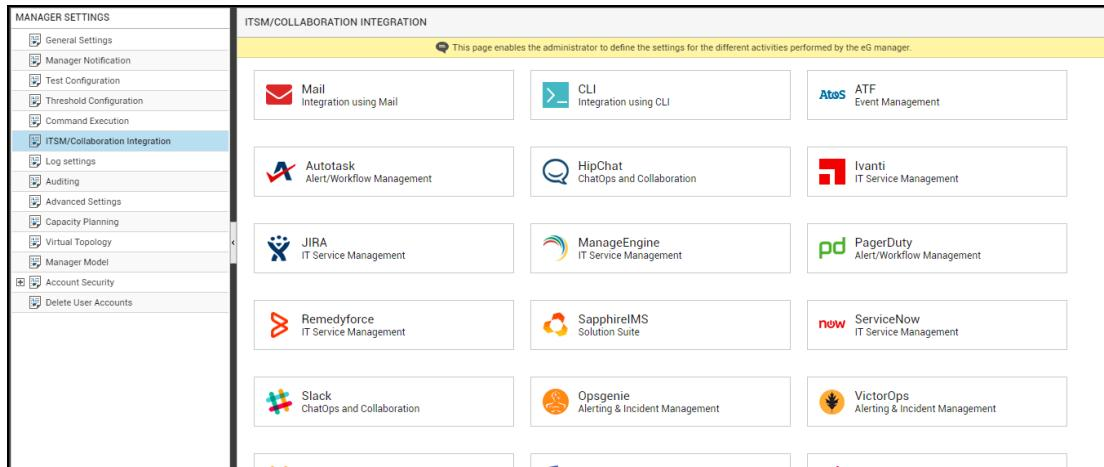
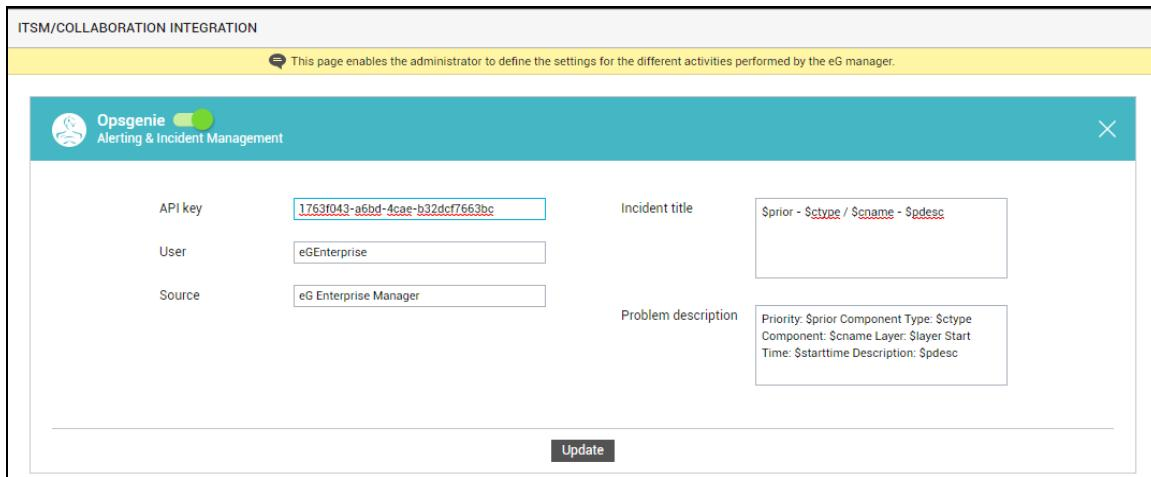

Figure 5.27: Viewing the ITSM/Collaboration tool options
Figure 5.28: Configuring integration with Opsgenie
3. Figure 5.27 will then appear. From the **MANAGER SETTINGS** tree in the left panel of Figure 5.27, select the **ITSM/Collaboration Integration** node. The third-party ITSM/Collaboration tools that eG Enterprise can integrate with will be listed in the right panel.
4. Now, click on the **Opsgenie** option in the right panel (see Figure 5.27). An **Opsgenie** section will now appear in the right panel (see Figure 5.28).
5. To enable integration with Opsgenie, first slide the **Opsgenie** slider in Figure 5.28 to the right.
6. Then, specify the following in Figure 5.28:
- Finally, click the **Update** button in Figure 5.28 to save the changes.